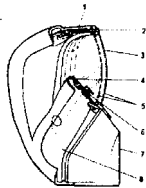

Figure 5-6 MF10-03-01 Mask Sub-Assembly
The mask sub-assembly (see figure 5-6), consists of a silicone-elastomer face piece (8) fitted with a plastic mask shell (7). The mask includes a double transparent plastic window (5) providing a wide angle of view. This window is inserted into a groove on the face piece; held in place on the upper part by a lock (2) and on the lower part by a pin. The hose cup is provided with a stiffener (4), which protects a venting valve (6) consisting of a housing valve and a flapper. The upper part of the face piece comprises an anti-mist aluminum-alloy condenser (1). The lower section of the mask shell is provided with an opening through which it is directly connected to the regulator. The electrostatic protective film (3) with a detachment tab is applied on the upper part of the window (5) to protect it against scratches.